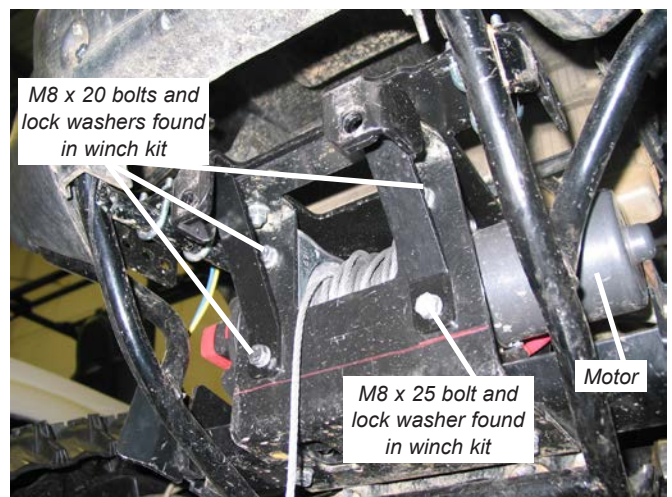

Figure 17 Install Winch
12. Using only the top two bolt holes, mount a WARN winch to the lower mounting bracket (A2) with 5/16" dia. bolts and lock washers supplied with the winch. Attach the angle brace brackets (A3) using the lower winch holes, M8 x 20MM and 25MM bolts and lock washers supplied with the winch. See figure 17. The feet of the winch are mounted forward with the motor facing the left side of the vehicle. Tighten the bolts to a recommended torque of 12 ft-lb (17 N-m).